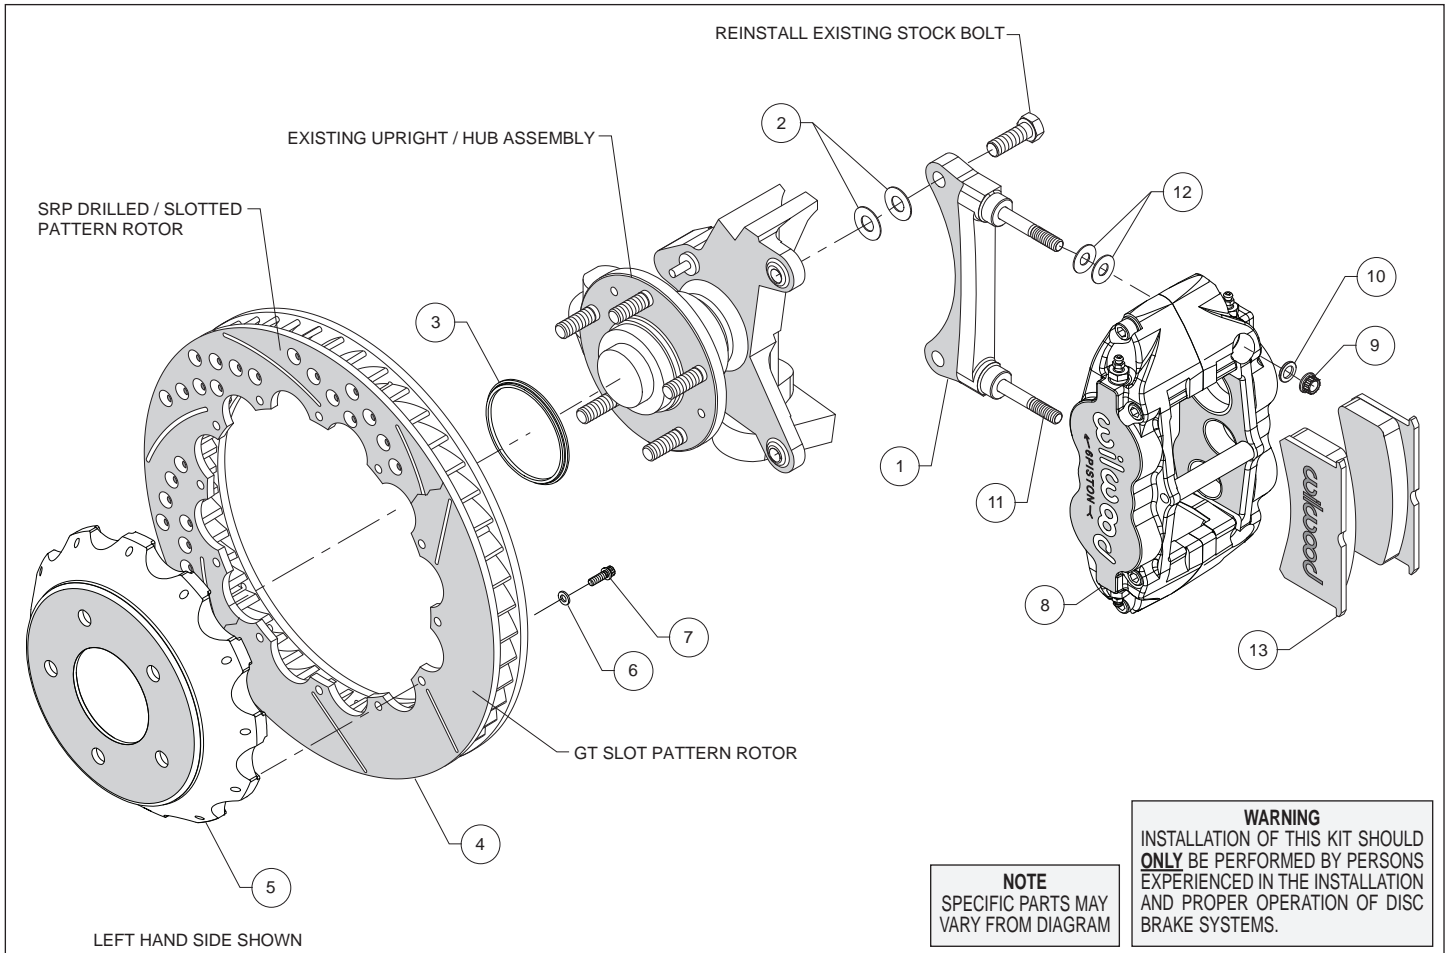
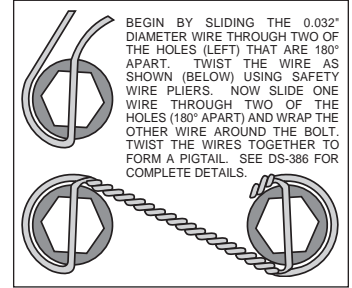

Figure 1. Typical Installation Configuration
Figure 3. Safety Wire Diagram
Assembly Instructions (numbers in parenthesis refer to the parts list and Figure 1 on the preceding pages):
- The caliper mount bracket (1) should initially be installed with clean, dry threads on the mounting bolts. Orient the bracket as shown in Figure 1, and install using saved Original Equipment Manufacturers (OEM) mounting bolts and shim washers (2). Initially place two shims (2) on each bolt between the bracket and upright, Figure 1. Temporarily tighten the mounting bolts. **NOTE:** The bracket must fit squarely against the mount bosses on the upright. Inspect for interference from casting irregularities, machining ridges, burrs, etc. Later, after the caliper alignment has been checked, the mount bolts will be secured using red *Loctite*® 271.
- Orient the rotor (4) and the hat (5) as shown in Figure 1 and Photo 1. Attach rotor to hat using bolts (7) and washers (6). Using an alternating sequence, apply red *Loctite*® 271 to the threads and torque bolts to 155 in-lb. For an added measure of security, the bolts may be safety wired using standard 0.032 inch diameter stainless steel safety wire as shown in Figure 3.
- Slide the rotor registration adapter (3) onto the axle register on the axle hub with the smaller O.D. facing outward, Photo 2. Slide the hat/rotor assembly onto the axle hub. **NOTE:** The hat must fit flush against the axle hub flange or excessive rotor run out may result. Install three lug nuts (finger tight) to keep the hat/rotor assembly in place while continuing with the installation.
- NOTE:** This kit contains distinct right and left hand calipers that must be mounted in a specific direction, as described below. Lubricate the caliper mounting studs (11) with lightweight oil. Initially place two .035" thick shims (12) on each stud as shown in Figure 1 and Photo 3. With the bleed screws pointing up, mount the caliper (8) onto the bracket (1) using lock nuts (9) and washers (10), Figure 1 and Photo 4. Ensure that the caliper is mounted so that the largest pistons are at the rotor exit end of the caliper, in relation to the direction of rotor rotation. Temporarily tighten the lock nuts and view the rotor through the top opening of the caliper. The rotor should be centered in the caliper, Photo 5. If not, adjust by adding or subtracting shims (2) between the bracket and the upright. Always use the same amount of shims on each of the two mounting bolts. Once the caliper alignment is correct, remove the bracket mounting bolts one at a time, apply red *Loctite*® 271 to the threads, and torque to manufacturer's specifications.